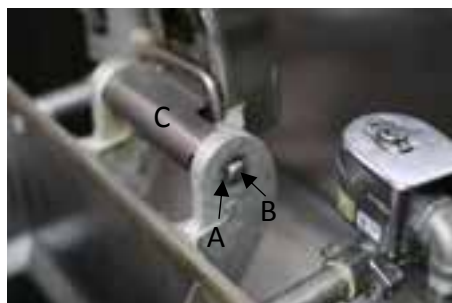

Figure 4.
- Inspect the hinge pin to ensure it is not missing, damaged or broken. Make sure that the retaining clips are securely in place on each side of the pin (figure 4). If any of these situations are true, take the fryer out of service until the components are replaced.